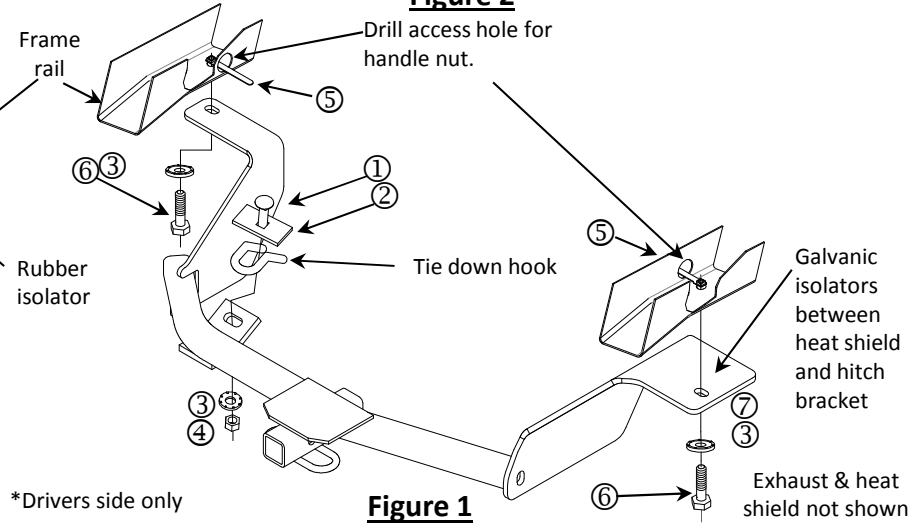

Figure 1
- Install the 1/2 carriage bolt and spacer as shown in Fig 1., to the tie down hook.
- Apply the clear galvanic isolators to the passenger side bracket as shown. Fig 1